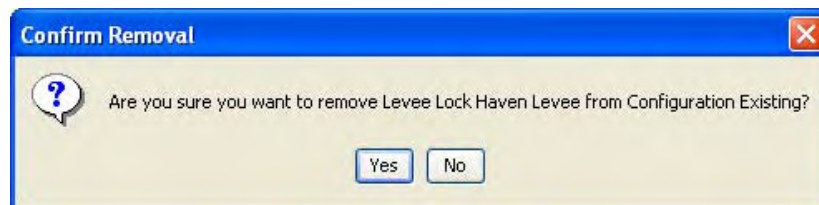

Figure 6.10 Confirm Removal of Levee
3. From the shortcut menu, select **Remove from Configuration**. This command removes the levee from the Configuration that is currently displayed in the **Configuration** box on the toolbar. The **Confirm Removal** dialog box appears (Figure 6.10).